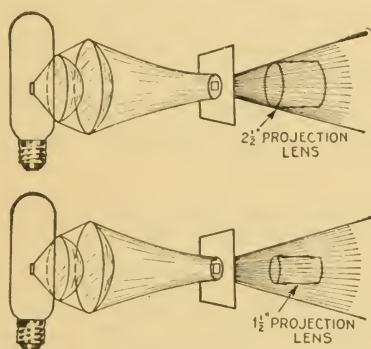

FIGURE 100 .
(206) As will be observed by examining Fig. 100 in Mazda projection the light beam diverges rapidly between the aperture and the projection lens. If the lens is to intercept most of the beam, the distance of the aperture to the rear element of the lens—which is fixed by